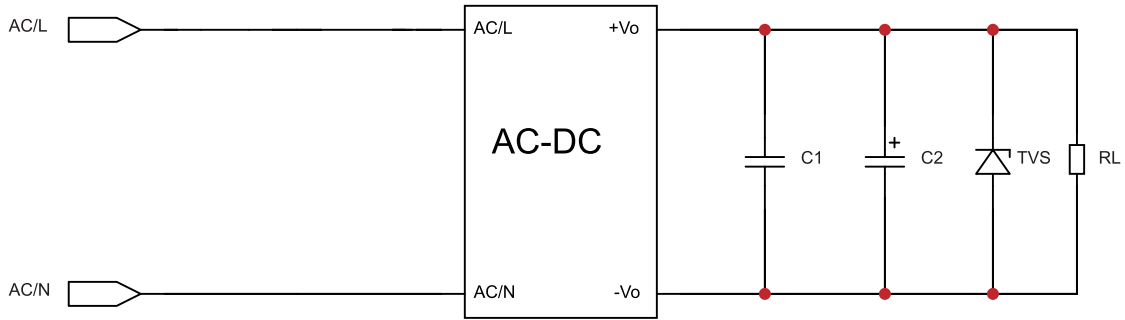

Fig.1: Typical circuit diagram
7. Unless otherwise specified, EMC performance indicators are tested according to typical application circuits (Fig. 1).